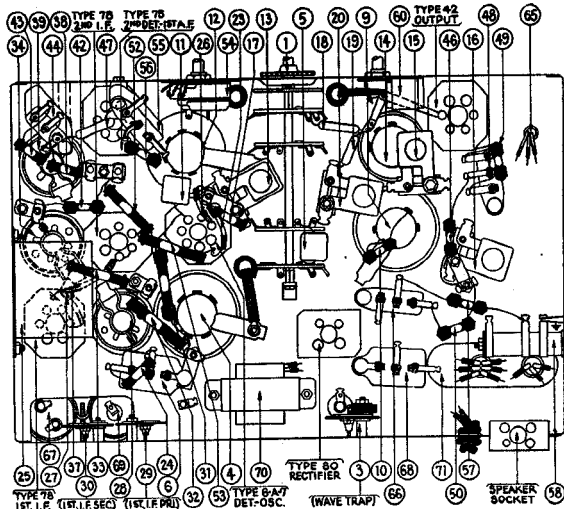

FIG. 4—Bottom View of Chassis, Showing Parts, and Position of Compensating Condensers Located,—and Reached,—from Below Chassis.
The output meter is connected to the primary terminals of the Output Transformer. Set the signal generator of the Model 048 at 400 K.C.—the intermediate frequency of Model 44,—and adjust each of the I.F. compensating condensers in turn, to give maximum response in the output of the receiver. The location of the I.F. compensating condensers is shown in Figure 2 and Figure 4. Figure 2 shows the position of the compensating condensers of the 2nd. I.F. Transformer (2) and of the 3rd. I.F. Transformer (2). Each of these transformers has its dual compensating condenser mounted at its top, and accessible through a hole in the top of the coil shield. In the dual compensator, the Primary circuit is adjusted by the SCREW; the Secondary circuit is adjusted by the hex-head nut. The adjustment of the primary and secondary circuits of the 1st. I.F. Transformer (2) is made by means of two single compensating condensers (2) and (2) mounted underneath, and at the rear of the chassis and accessible from the rear. They are shown in Figure 2 and 4.
Turn the Wave-Band Switch to Range 2, and adjust the Station Selector to 3.6 M.C. The "Antenna" connection between the Signal Generator and the receiver chassis must be removed for this adjustment. The output of the Signal Generator will be too great, otherwise. Adjust the compensating condenser (2) to give maximum response in the output circuit. This compensating condenser (2) is located underneath the chassis and is not accessible from above. See Figure 4.
The Model 048 Set Tuner is used again. Turn the Wave-Band Switch to Range 2, Station Selector to 1.5 M.C. Set the Signal Generator (Model 048) at 1500 K.C. (1.5 M.C.). The "Antenna" connection between the Signal Generator and the chassis should be restored. Adjust compensating condenser (2), located underneath the chassis, (Figure 4). Adjustments is possible from the underside of the chassis.
Place the Wave-Band Switch at Range 1, and the Station Selector to 1400 K.C. Set the Signal Generator (Model 048) at 920 K.C., and adjust the compensating condenser (2), which is located underneath the chassis. See Figure 4. This adjustment is possible from the underside of the chassis.
With Wave-Band Switch at Range 1, and Station Selector at 520 K.C., set the Signal Generator of the Model 048 at 520 K.C., and adjust the compensating condenser (2), (Figure 4). This compensating condenser is mounted underneath the chassis, and is reached from below.